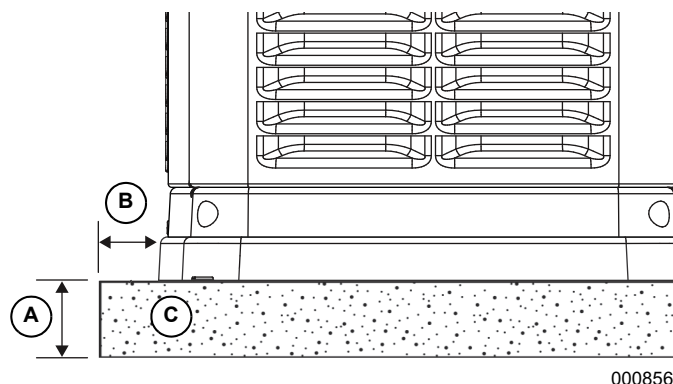

Figure 3-3. Compacted Gravel Pad
- See Figure 3-3. Dig a rectangular area approximately 5 in (127 mm) deep [A] and about 6 in (152 mm) longer and wider [B] than the footprint of the generator. Fill with 4 in (102 mm) of pea gravel [C], crushed stone or any other non-combustible material sufficient for level installation. Compact and level the material. A concrete pad can be poured if desired or required. The pad should be 4–5 in (102–127 mm) thick and extend 6 in (152 mm) beyond the outside of the generator in all directions.